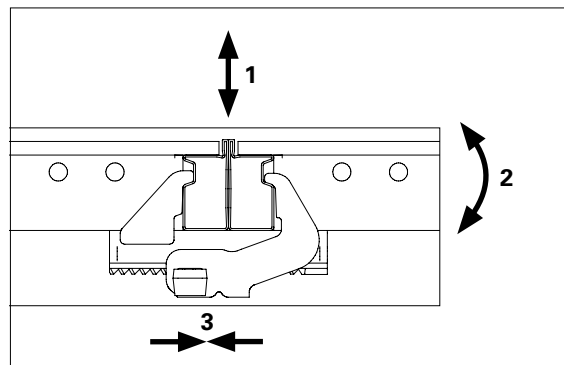

Fig. A4.03
- **3** Panels are tightly connected. (Fig. A4.03)